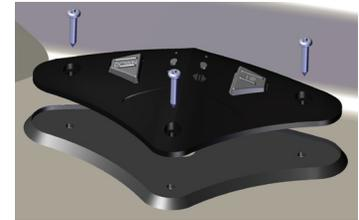

Figure 2
4. Place the foot switch back into its rubber pad, and fasten both the switch and pad to the vessel using a #2 Phillips-head screwdriver and the (3) #8 x 1.5" pan head screws. (See **Figure 2**)